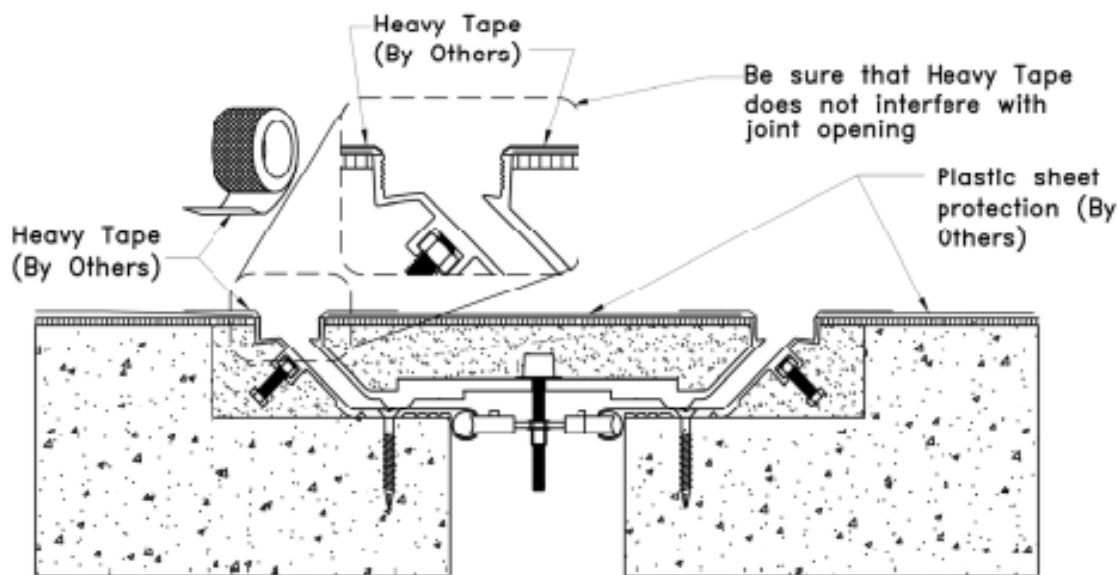

FIGURE 14
14. Remove heavy tape from joint opening. Protect surrounding finish floor material using heavy tap and heavy gauge plastic sheeting. **SEE FIGURE 14**
SEE FIGURE 14